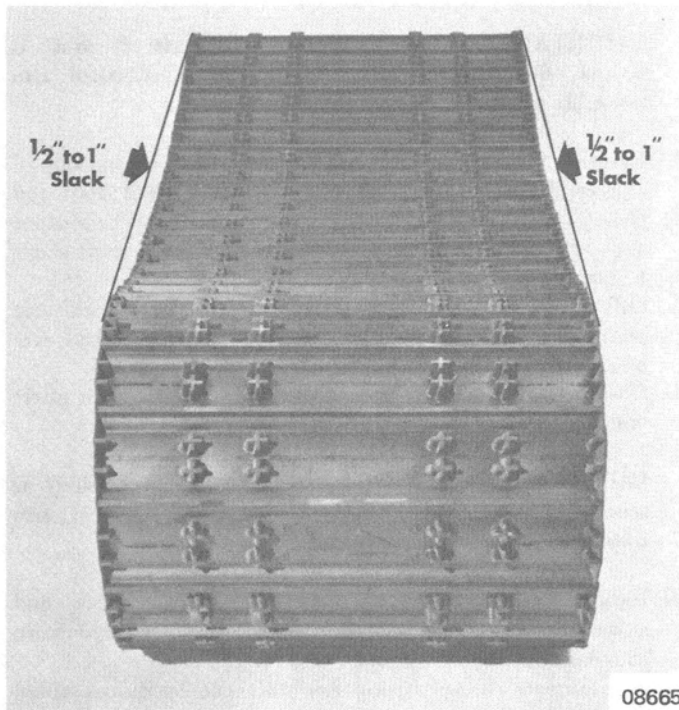

Figure 1. Track Tension
Proper track tension and alignment are essential to eliminate undue wear to drive components and track and to maintain efficient, economical operation of the snowmobile. Check track tension and alignment after first 3 to 5 hours of operation and every 25 hours of operation thereafter. Tension is correct when a slack of  $\frac{1}{2}$ " to 1" (12.7mm-25.4mm) is obtained. Slack **MUST** be measured at center of track when snowmobile is at rest with track supporting weight of snowmobile. (Figure 1) If necessary, adjust as follows:
3. Adjust tension bolts ("D" in Figure 2) equally on both sides of chassis until correct tension has been acquired, as shown in Figure 1.